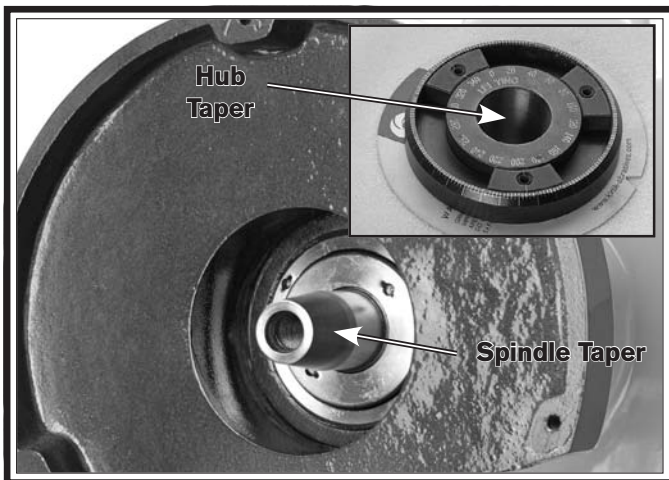

Figure 28. Spindle taper.
11. Wipe the spindle and hub taper (**Figure 28**), so the tapers are perfectly clean. Wiping the threads and tapers with a lightly-oiled rag is acceptable to prevent rust and still to allow for a tight fit.